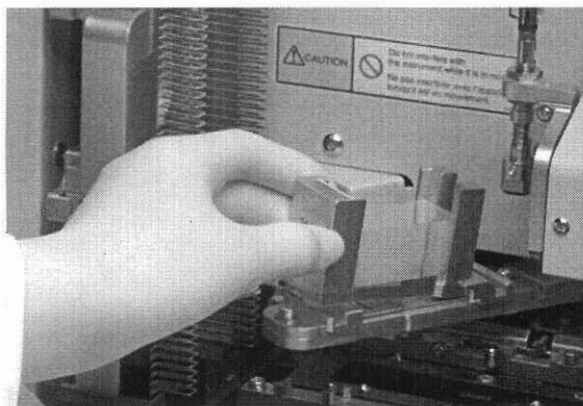

Figure 3-H
7. Place all (3) (Fig. 3-I) receiving racks onto the receiving rack guide rails if not already positioned.